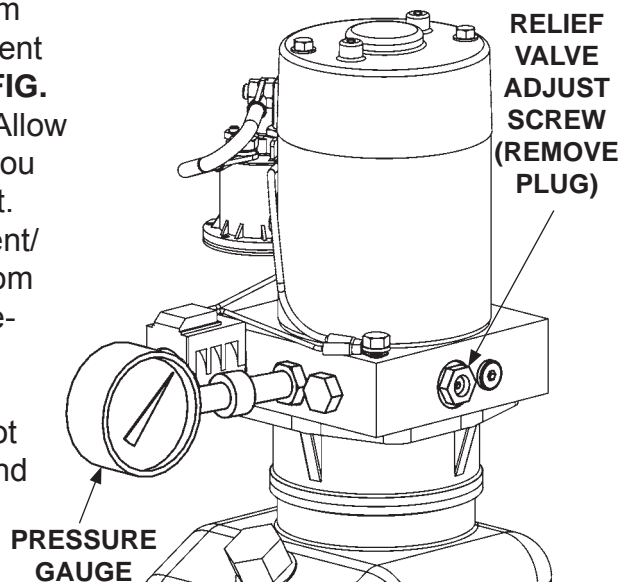

FIG. 36-2
3. With platform on the ground, remove the pressure hose and fitting from the pump and replace it with a 0-4000 PSI pressure gauge. Hold the switch in the "UP" position. Adjust the relief valve on the side of the pump until the gauge shows 3250 PSI (**FIG. 36-2**). Remove gauge and reinstall pressure hose.